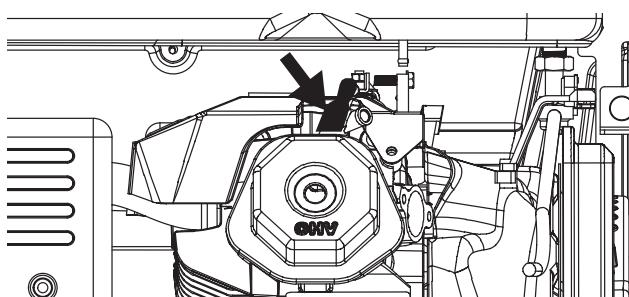

Figure 25 - Remove Spark Plug Boot
3. Remove the spark plug boot by firmly pulling the plastic spark plug boot handle directly away from the engine (see Figure 25).